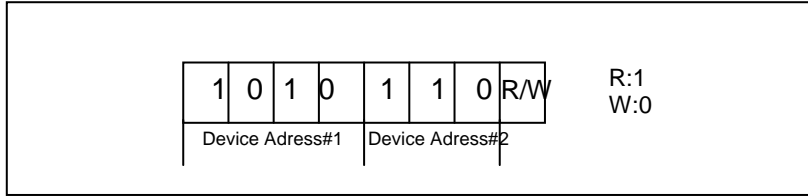

**Figure.5 Recommend Power Up Sequence**
(10) Refer to Figure.5 on "Power on Reset sequence".